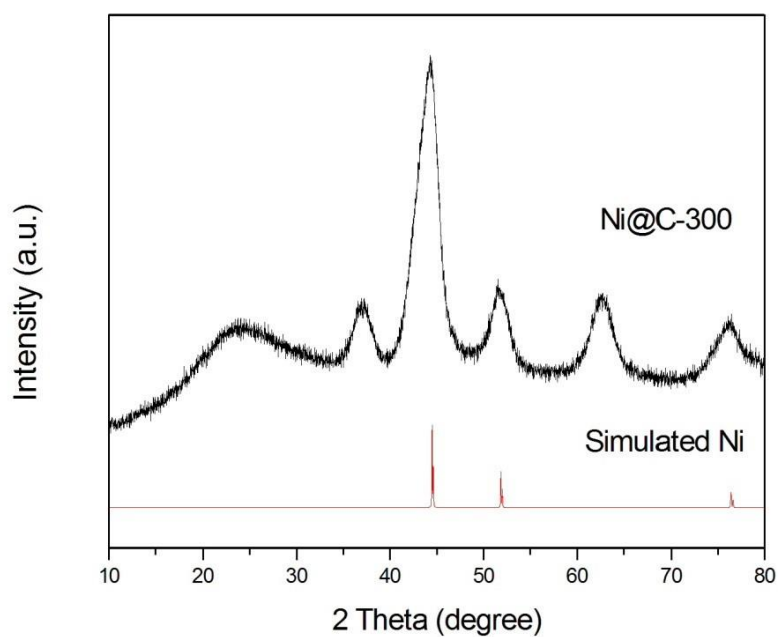

Fig. S4 PXRD patterns of Ni@C-300 (black) and the simulated data of cubic phased Ni (red, JCPDS no. 04-0850).
- IV. **Fig. S4** PXRD patterns of Ni@C-300 (black) and the simulated data of cubic phased Ni (red, JCPDS no. 04-0850).